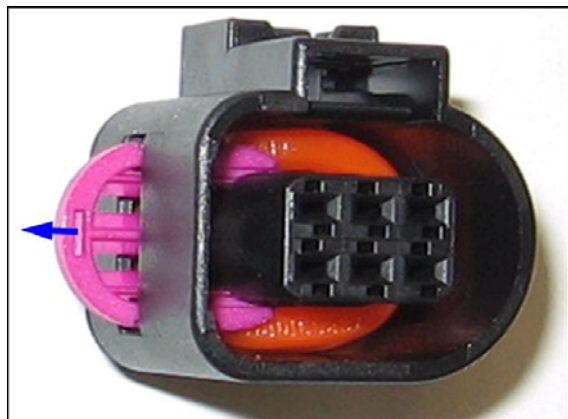

Figure 2. *Slot to be used to remove lock.*
- Release lock on new wiring harness end connector housing using small flathead screwdriver. Use slot marked in Figure 2.